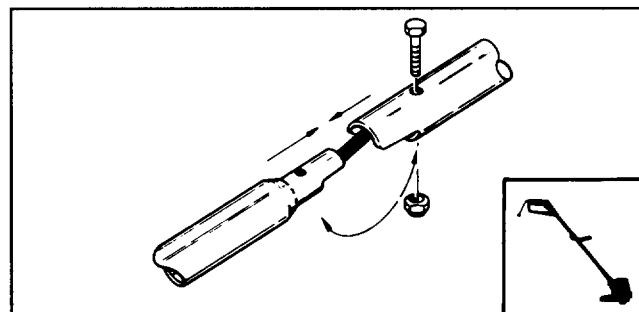

Figure 3
3. Slide lower tube into upper tube and align screw holes (Fig. 3). Check alignment of handgrip and housing.